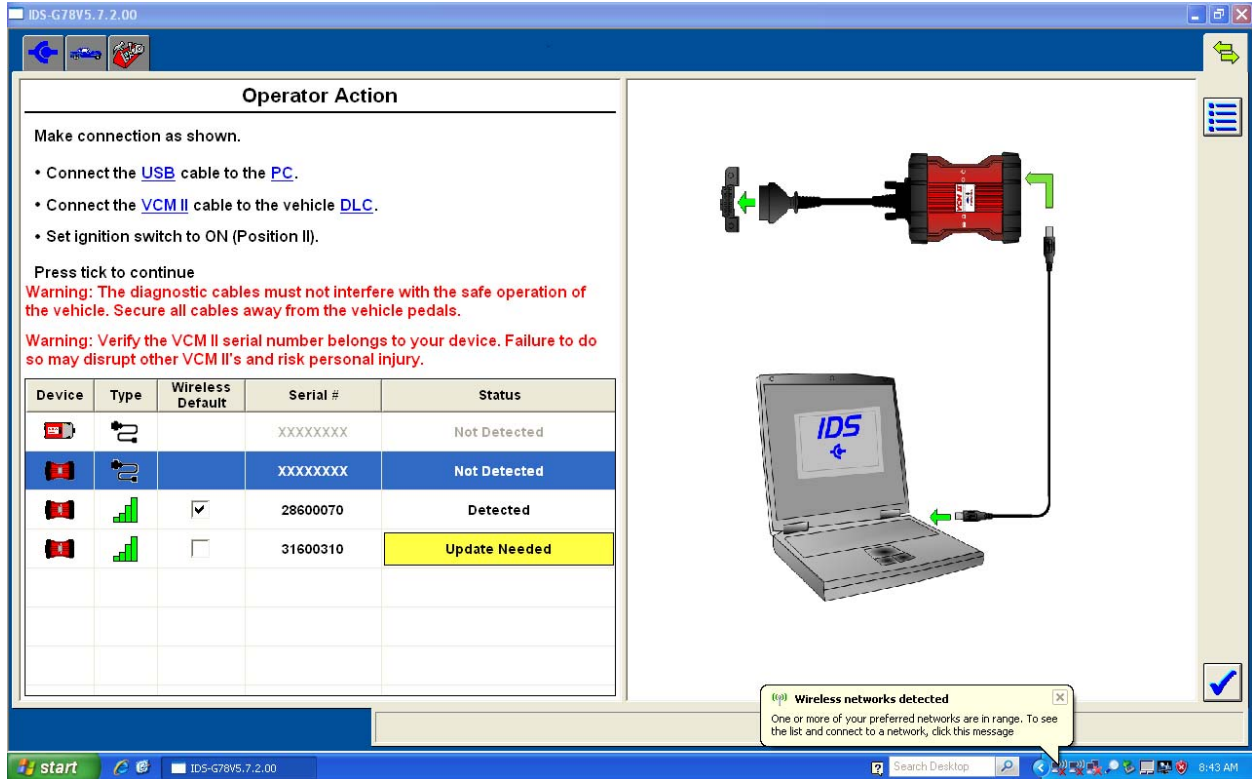

FIGURE 22: WIRELESS VEHICLE COMMUNICATIONS MODULE SELECTION
4. Select a wireless VCM II whose status is “Detected”, as shown in Figure 22.